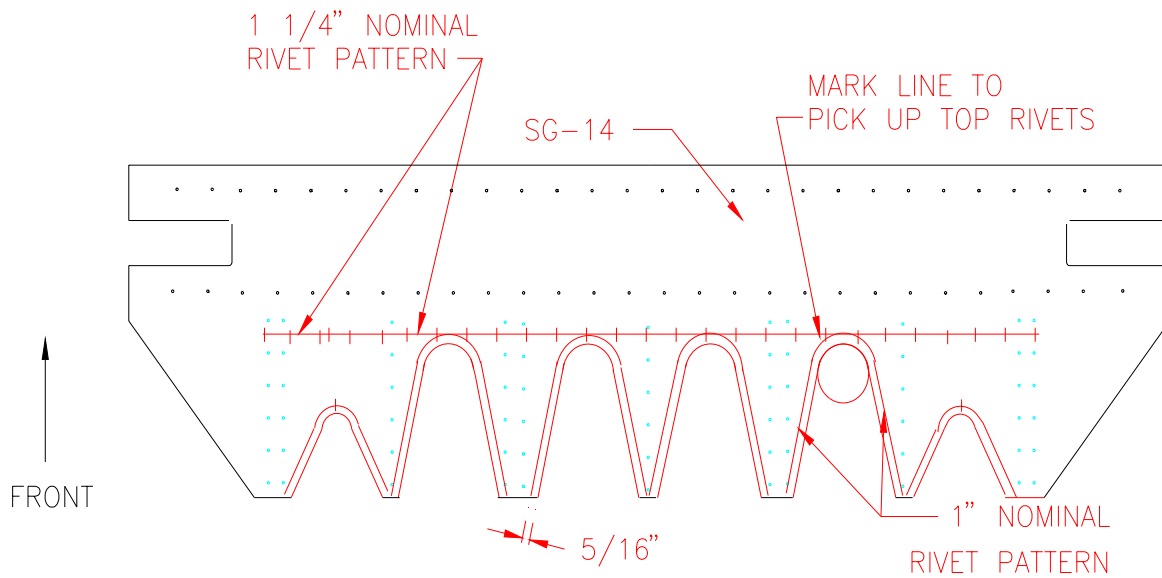

Figure 14.1.15
32) Around each notch you just cut out, mark a line at  $5/16''$ . Figure 14.1.15. On the sides of notches mark out a  $1''$  nominal rivet pattern. **NOTE:** If a new rivet hole is too close to an existing rivet hole do not mark a new hole.
33) On the top of each  $2 1/8''$  notch hole mark out a  $1 1/4''$  nominal rivet pattern. Figure 14.1.15. Draw a line across SG-14 so that it intersects the four notch hole lines. Mark a  $1 1/4''$  nominal rivet pattern between notches as you did previously.